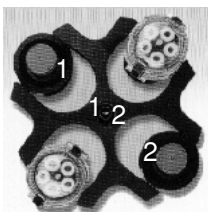

figure 1
5.2.1 All rotating equipment is dynamically balanced prior to shipment. For swinging bucket rotors, reference numbers and marks on the buckets correspond to matching marks on the rotor. Buckets should be positioned on the rotor so that the numbers on the buckets correspond to the same numbers on the rotor itself (eg. bucket #2 positioned in rotor position #2, see fig. 1).